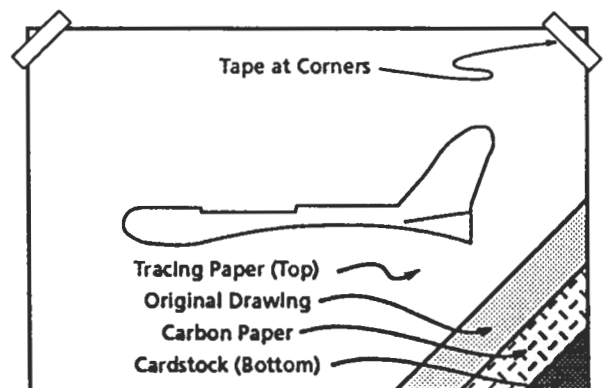

Figure 7 - Carbon and Tracing Paper Drawing
1. Place your graph paper drawing over the sheet of card stock with carbon paper underneath and tracing paper over the top. Carefully trace the design, transferring it to the card stock underneath. (See Figure 7.)